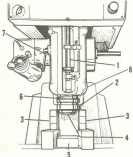
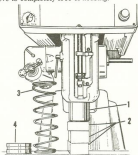

Figure 20. Removing Spindle
Figure 21. Removing Spindle
55. REMOVING SPINDLE (figure 20 and 21)
1. Bring spindle down approximately 2-1/2 inches and lock spindle in place with spindle locking lever (7).
2. Move the table to approximately four inches below spindle nose. Place wood block (3) on table to protect top.
3. Remove micrometer depth stop bracket assembly (1) by removing two socket head cap screws.
6. Secure two wood blocks or parallels (3) of exactly the same height. Place one on each side of the extended spindle nose (4) and under the spindle sleeve bushing (2) which is under spring tension.
8. Remove the guide ring adjusting screw (8, figure 20) and drive a soft metal wedge in slot at rear of spindle housing thereby releasing the spindle sleeve bushing.
9. The spindle guide ring (2) and retaining spring (6) are now ready for removal by slowly lowering the table. Make sure the spindle guide ring follows down with the table. Continue lowering the table until guide ring bushing and spring are completely free.
10. Remove the blocks (3), spindle sleeve bushing (2) and spring (6).
11. Place another block (or blocks) of wood under the spindle nose (2, figure 21). Raise the table until block comes in contact with spindle nose.